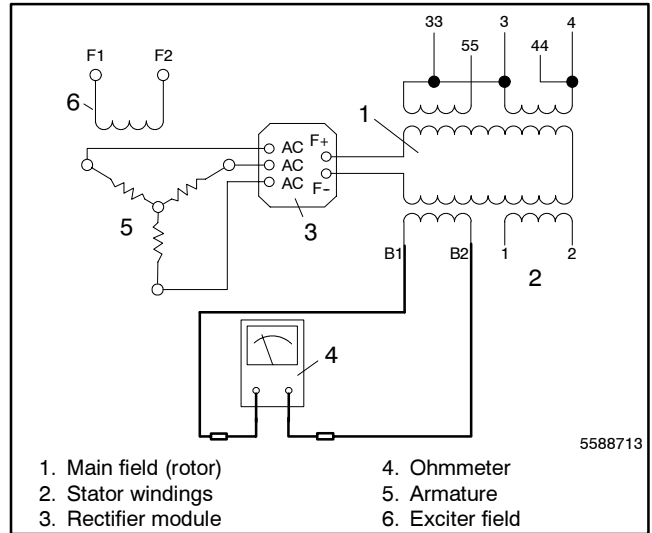

Figure 7-13 Stator Ohmmeter Connections
The stator produces electrical output (AC) as the magnetized main field rotates within the stator windings. Test the condition of the stator according to the following procedure. Refer to the schematic in Figure 7-13 when performing the following tests.
2. Disconnect all the stator leads to isolate the windings. To check the stator continuity, set the ohmmeter on the R x 1 scale. Contact the red and black ohmmeter leads; adjust the ohmmeter to zero ohms. Check the stator continuity by connecting the meter leads to the stator leads as shown in Figure 7-13. Perform the stator tests on all the stator windings. See Figure 7-14.